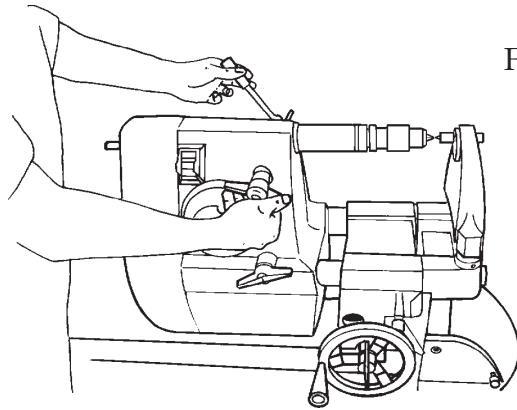

Figure B-116
97. Loosen the quill lock. Extend the quill (seen in Figure B-116), so the drill chuck almost touches the cup center point and the center point could fit into the chuck jaws.